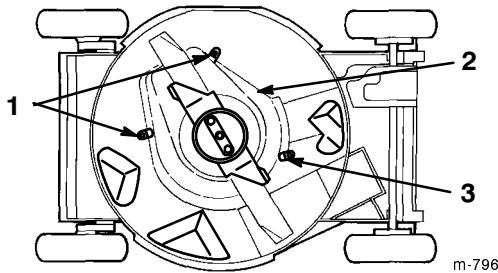

Figure 30
6. Loosen the tabs that secure the BBC shield to the deck by loosening the nuts or the bolts on the tabs (Fig. 30). Rotate the tabs 180° to move them out of the way.